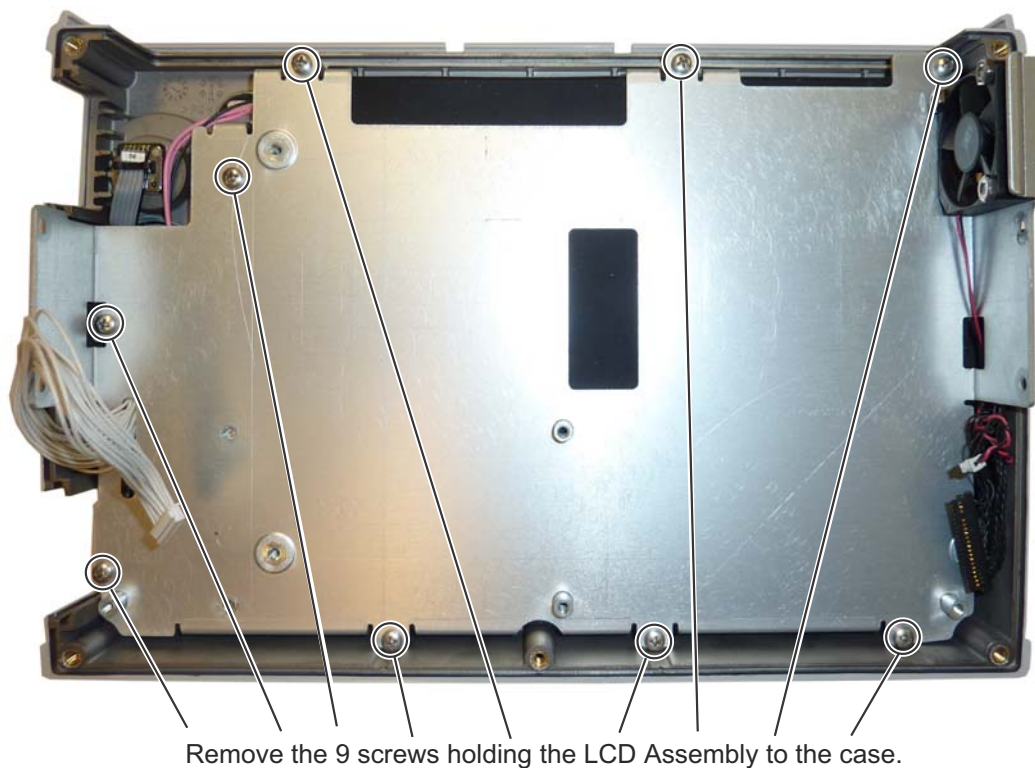

Figure 7-13. Removing the LCD Assembly
3. Remove the 9 screws connecting the LCD Assembly to the front half of the case (Figure 7-13).